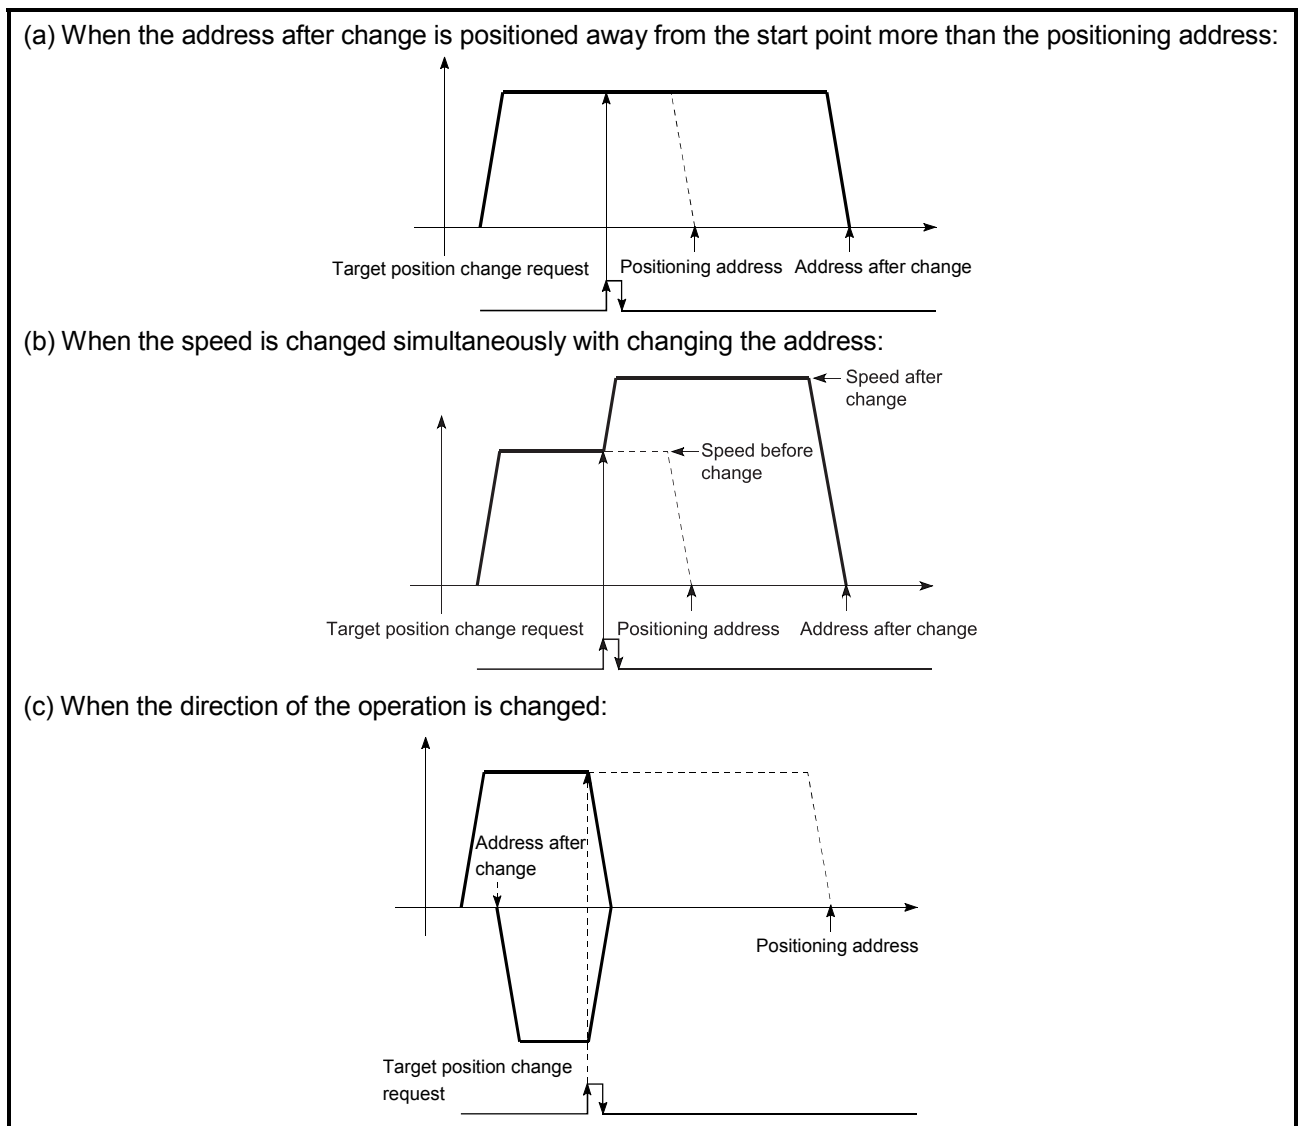

Fig. 12.35 Target position change operation
- (1) If the positioning movement direction from the stop position to a new target position is reversed, stop the operation once and then position to the new target position. (Refer to Fig. 12.35 (c).)
- (2) If a command speed exceeding the speed limit value is set to change the command speed, the warning "Speed limit value over" (warning code: 501) will occur, and the new command speed will be the speed limit value. Also, if the command speed change disables the remaining distance to the target value from being assured, the warning "Insufficient remaining distance" (warning code: 509) will occur.
- (3) In the following cases, the target position change request is ignored, and the warning "Target position change not possible" (warning code: 518) will occur.
- (4) When a command speed is changed, the current speed is also changed. When the next positioning speed uses the current speed in the continuous positioning, the next positioning operation is carried out at the new speed value. When the speed is set with the next positioning data, that speed becomes the current speed and the operation is carried out at the current speed.
- (5) When a target position change request is given during automatic deceleration in position control, positioning control to a new position is exercised after the axis has stopped once if the moving direction is reversed. If the moving direction is not reversed, the axis is accelerated to the command speed again and positioned to the new position.
- (6) If the constant speed status is regained or the output is reversed by a target position change made while " **Md.48** Deceleration start flag" is ON, the deceleration start flag remains ON. (For details, refer to Section 12.7.8.)